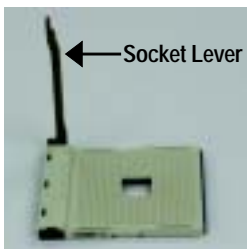
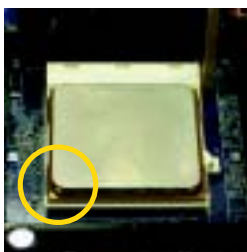

Figure 1.
Figure 2.
Step1-1. First, check the processor pins to see that none are bent. Move the socket lever to the unlocked position as shown in Figure 1.(90° to the plane of the motherboard) prior to inserting the processor. The pin 1 location is designated on the processor by a copper triangle that matches up to a triangle on the socket as shown in Figure 2. Align the processor to the socket and gently lower it into place. Do not force the processor into the socket.